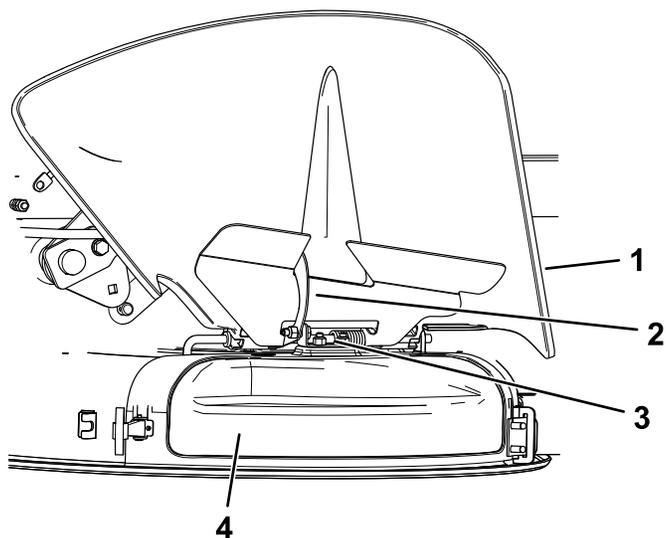

Figure 15
4. Release the hook-shaped latch on top of the discharge cover from the pivot rod (Figure 15).
- On the top of the discharge cover, engage the hook-shaped latch around the pivot rod of the deflector assembly (Figure 15).